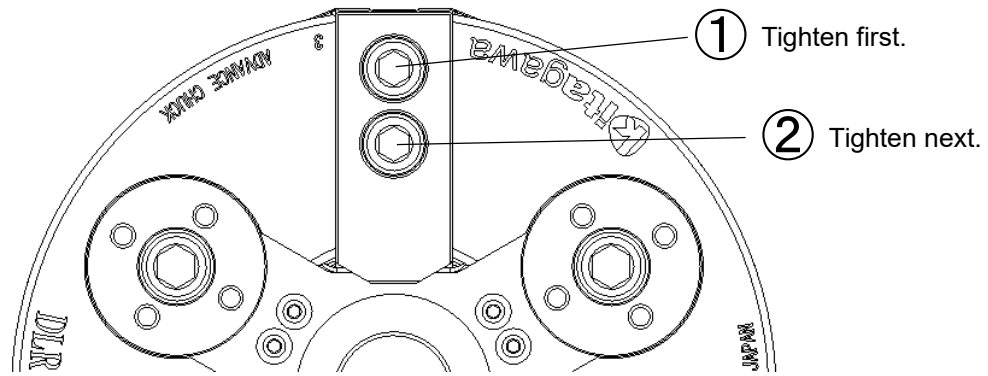

Figure 14-3 Tightening order of the jaw mounting bolts
- To maintain the installation repeatability of the Tnut-Plus for a long period of time, always tighten the jaw mounting bolts from the chuck outside diameter side ① with the specified torque. (See Figure 14-3)